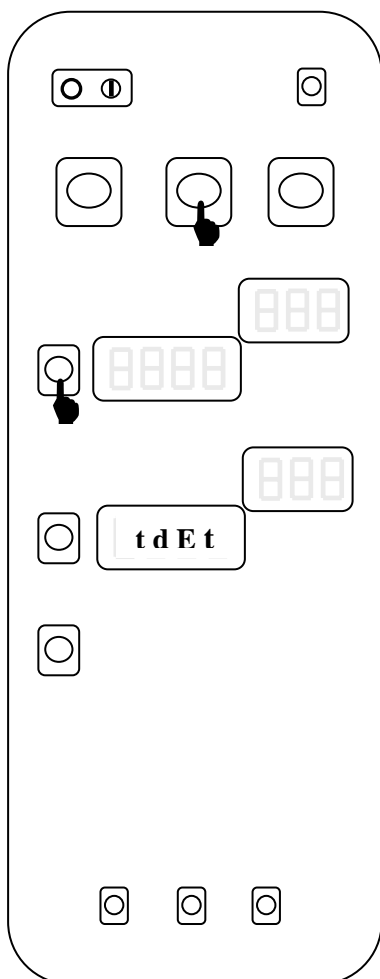

Fig. 20
- Combi cycle, temperature buttons (fig. 20): activation of detergent pump (**tdEt** appears on time display)